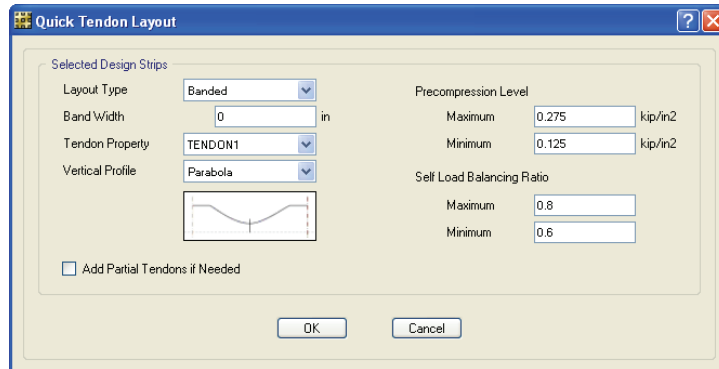

Figure 79 Quick Tendon Layout form
- D. Click the **Edit menu > Add/Edit Tendons > Add Tendons in Strips** command to display the Quick Tendon Layout form shown in Figure 79.